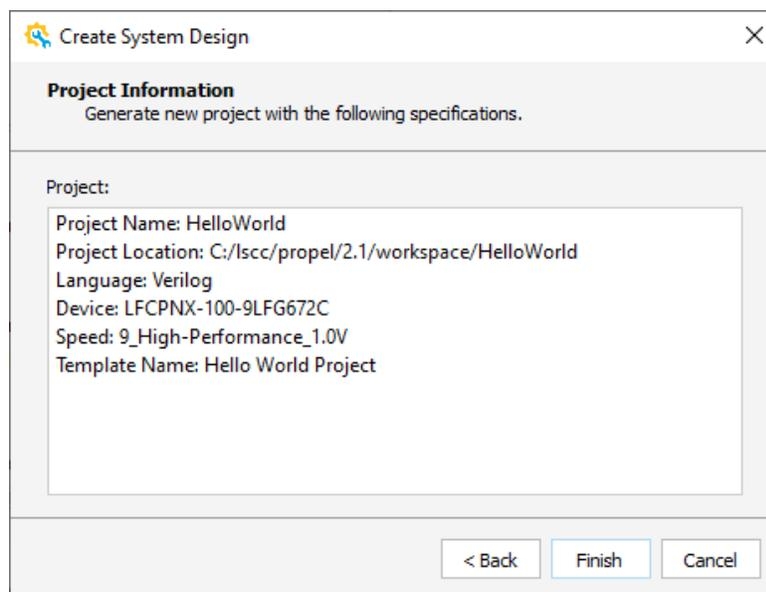

Figure 2.10. Project Information Wizard
8. Click **Next**. The Project Information wizard opens (Figure 2.10).